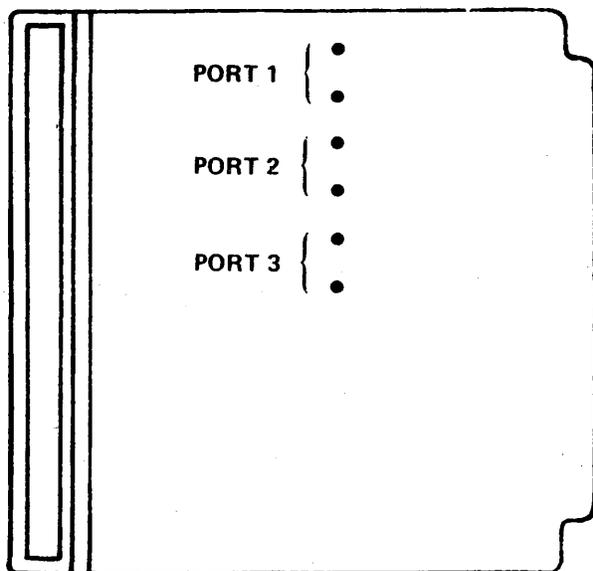

Figure 3. 419 Option Locations
6.01 The 419 Conference Bridge is capable of providing 2-wire/8-way operation. However, ports 1, 2 and 3 are equipped with strapping posts which allow the bridge to be optioned for 7-, 6- or 5-way operation. When arranging the module for operation, refer to Figure 3, which shows option locations, and strap all options in accordance with the following paragraphs.